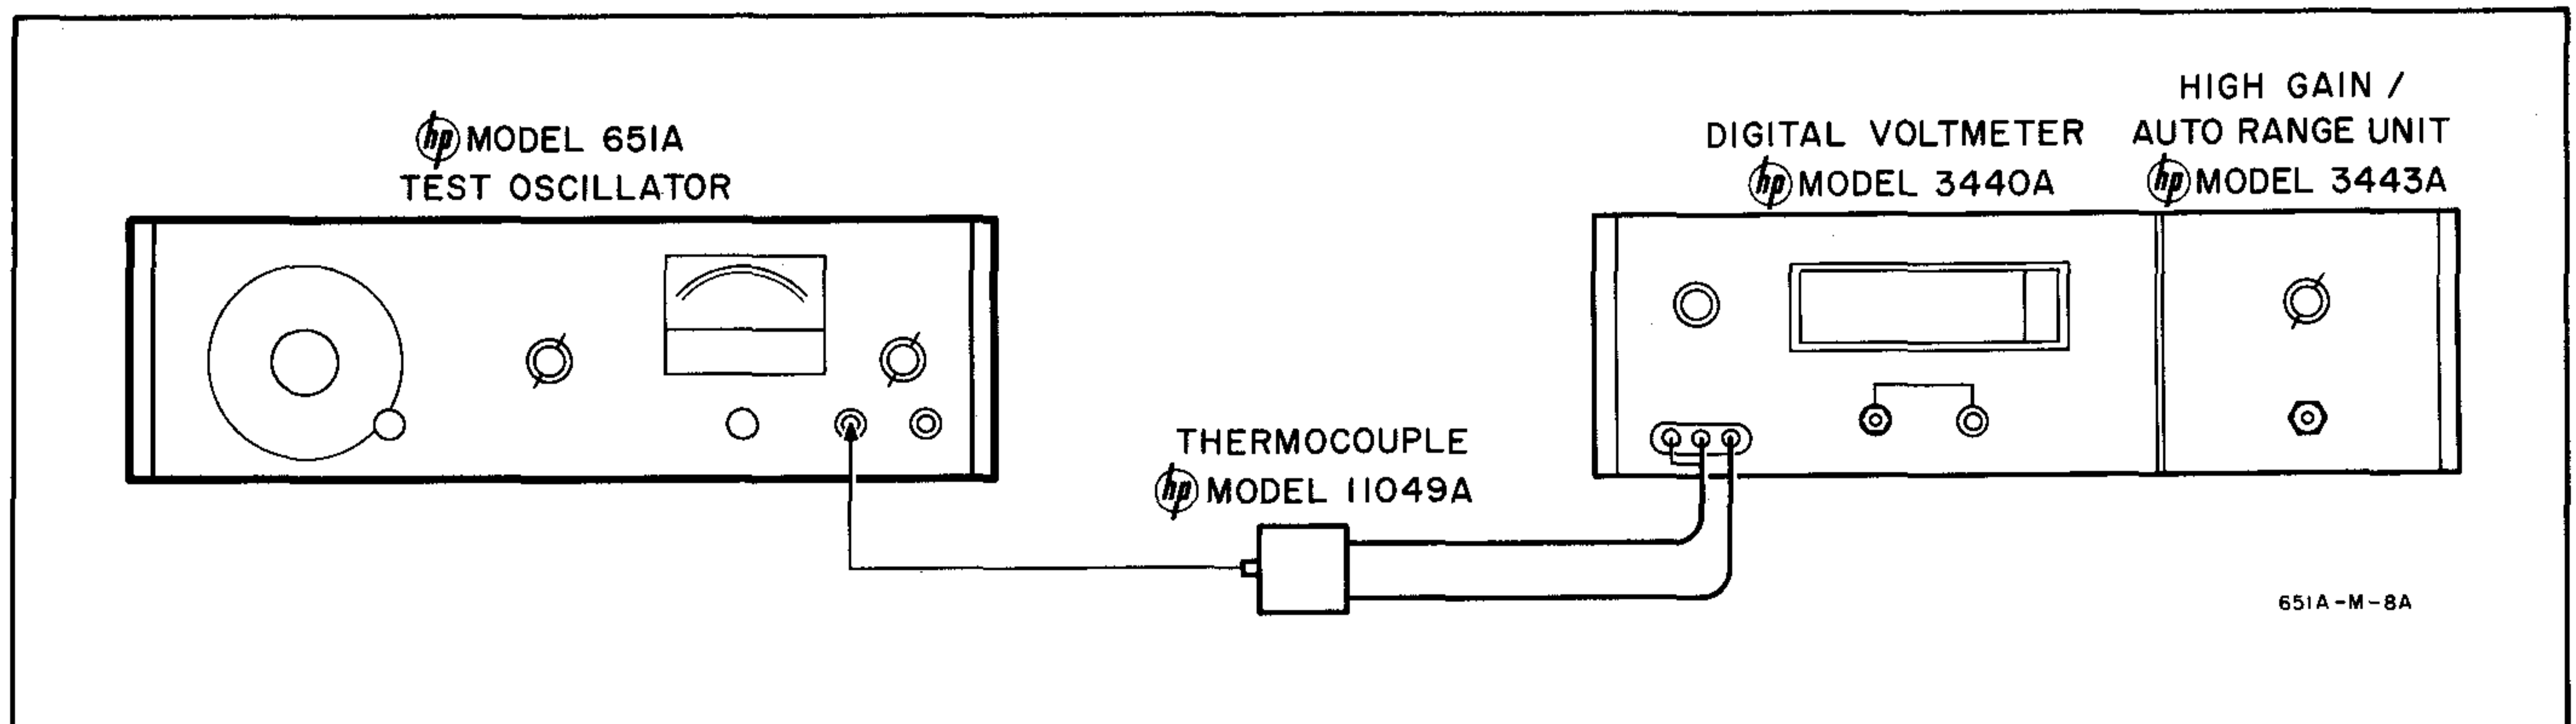

Figure 5-3. Output Meter Flatness and Instrument Frequency Response Check
- a. Connect Model 651A as shown in Figure 5-3.